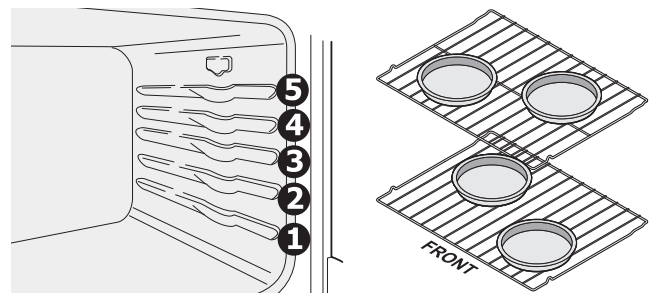

Figure 3: Rack positions (L) and pan spacing (R)
- When baking cakes using 2 racks, place bakeware on oven rack positions 3 and 5 and place the cake pans as shown. (See Figure 3)